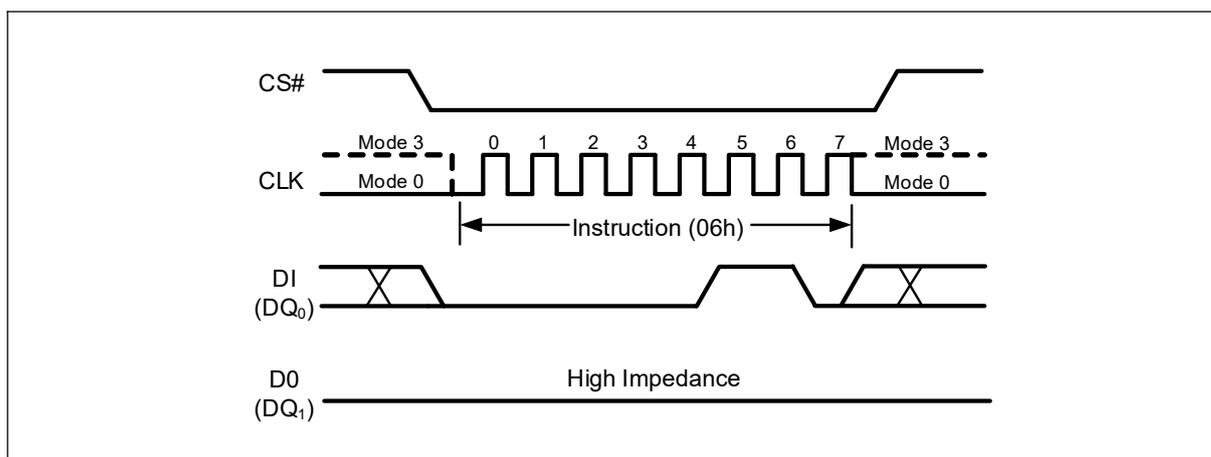

Figure 6 Write Enable Instruction for SPI Mode
Instructions vary in length from a single byte to several bytes and may be followed by address bytes, data bytes, dummy bytes (don't care), and in some cases, a combination. Instructions are completed with the rising edge of edge CS#. Clock relative timing diagrams for each instruction are included in Figure 6 through Figure 47. All read instructions can be completed after any clocked bit. However, all instructions that Write, Program or Erase must complete on a byte boundary (CS# driven high after a full 8-bits have been clocked) otherwise the instruction will be ignored. This feature further protects the device from inadvertent writes. Additionally, while the memory is being programmed or erased, or when the Status Register is being written, all instructions except for Read Status Register will be ignored until the program or erase
The Write Enable (WREN) instruction (Figure 6) sets the Write Enable Latch (WEL) bit in the Status Register to 1. The WEL bit must be set prior to every Page Program, Quad Page Program, Sector Erase, Block Erase, Chip Erase, Write Status Register and Erase/Program Security Sectors instruction. The Write Enable (WREN) instruction is entered by driving CS# low, shifting the instruction code "06h" into the Data Input (DI) pin on the rising edge of CLK, and then driving CS# high.